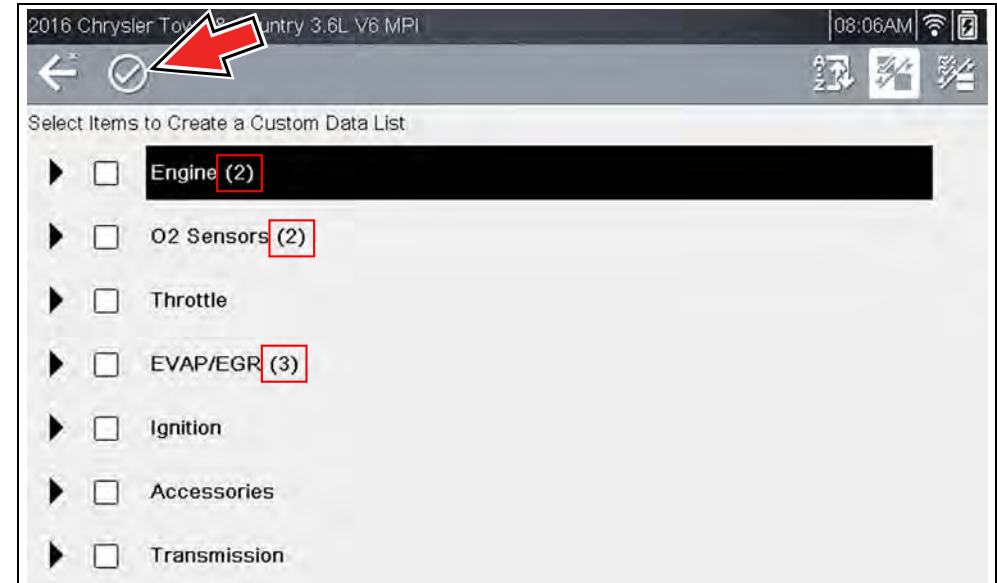

Figure 5-20
3. Once you have selected all the PIDs you need (*Figure 5-20*), to view the custom list, select the **Accept** icon (*Figure 5-20*).